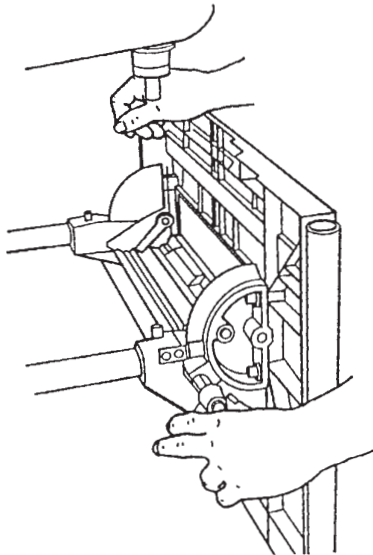
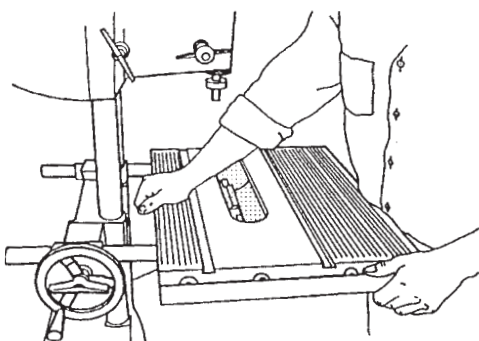

Figure B-49
Figure B-50
8. Move the worktable into the 90° position by loosening the table tilt lock (165), as seen in Figure B-49, then putting the worktable in the horizontal 90° position, as shown in Figure B-50. Retighten the table tilt lock only enough to allow movement with firm pressure.